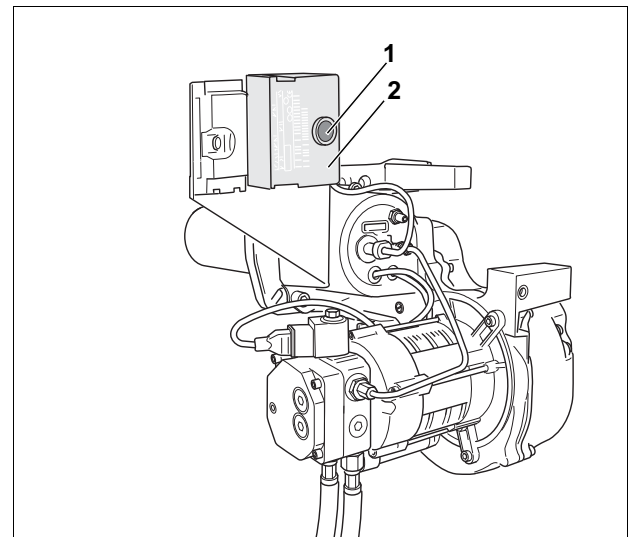

Fig. 10 Reset button and indicator light
- Bleed the system with the aid of the built-in oil pump, not by repeatedly pressing the reset button (Fig. 10, **Item 1**).
- Press and hold the reset button (Fig. 10, **Item 1**) for longer than one second (switch on). After approx. five seconds, the burner enters startup/running mode (see Tab. 6, "Display of burner operating status by multicolor LED", page 13).
- Press the reset button (Fig. 10, **Item 1**).